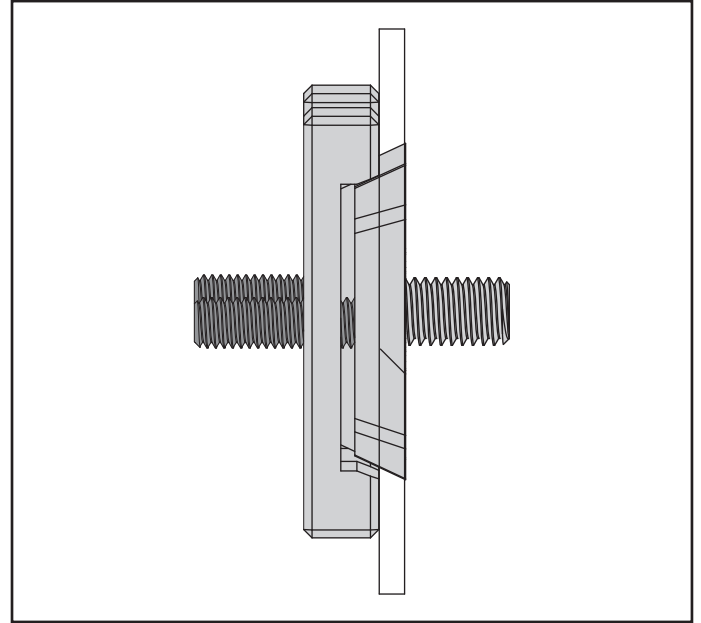

Figure 3.
3. Hold pressure against the nuts (E) by lifting on the anchor stud and tighten the screws (F) evenly, torque to 8 ft/lb (figure 3).
5. Place the washer (G), lock washer (C) and selected fastener (A, B or H) onto the anchor stud.